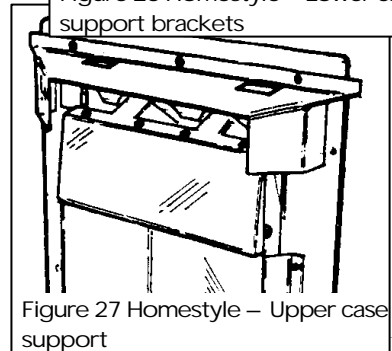

Figure 27 Homestyle - Upper case support
9.2.2 Fit the upper case support to the top of the convection box with the three screws provided. Insert the screws **from the back** of the appliance. See figure 27.